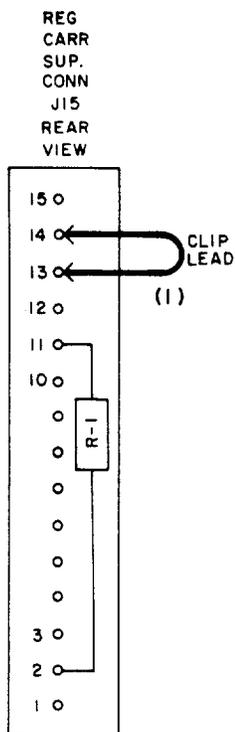

Fig. 14—Connections—Loss-of-Sync-Signal Test—Regular Carrier Supply
- 1 At the rear of the shelf for the **regular** carrier supply under test, connect pin 13 to pin 14 of jack J15 [connection (1), Fig. 14].